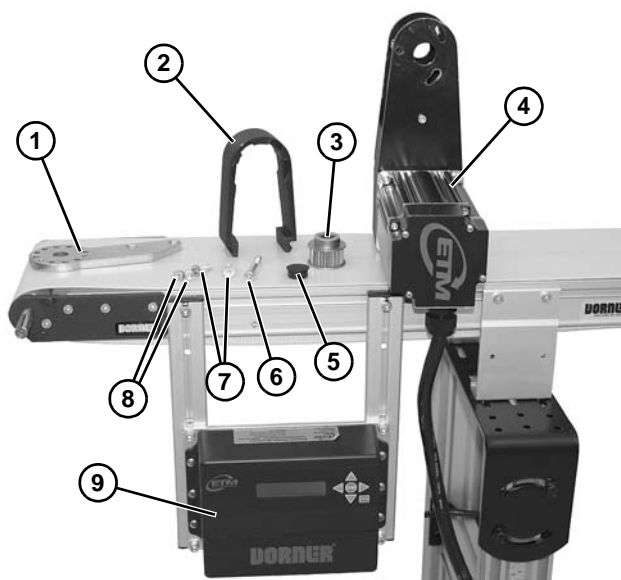

Figure 2
1. Typical components (**Figure 2**).